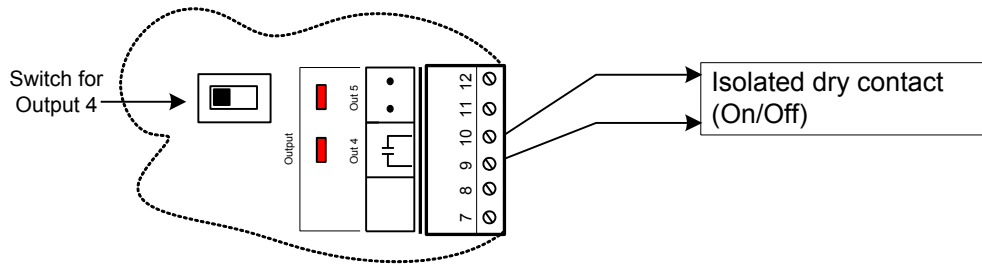

Figure 5: Output in SINK mode
2) Switch position to obtain a SINK **passive output** (see Figure 5):